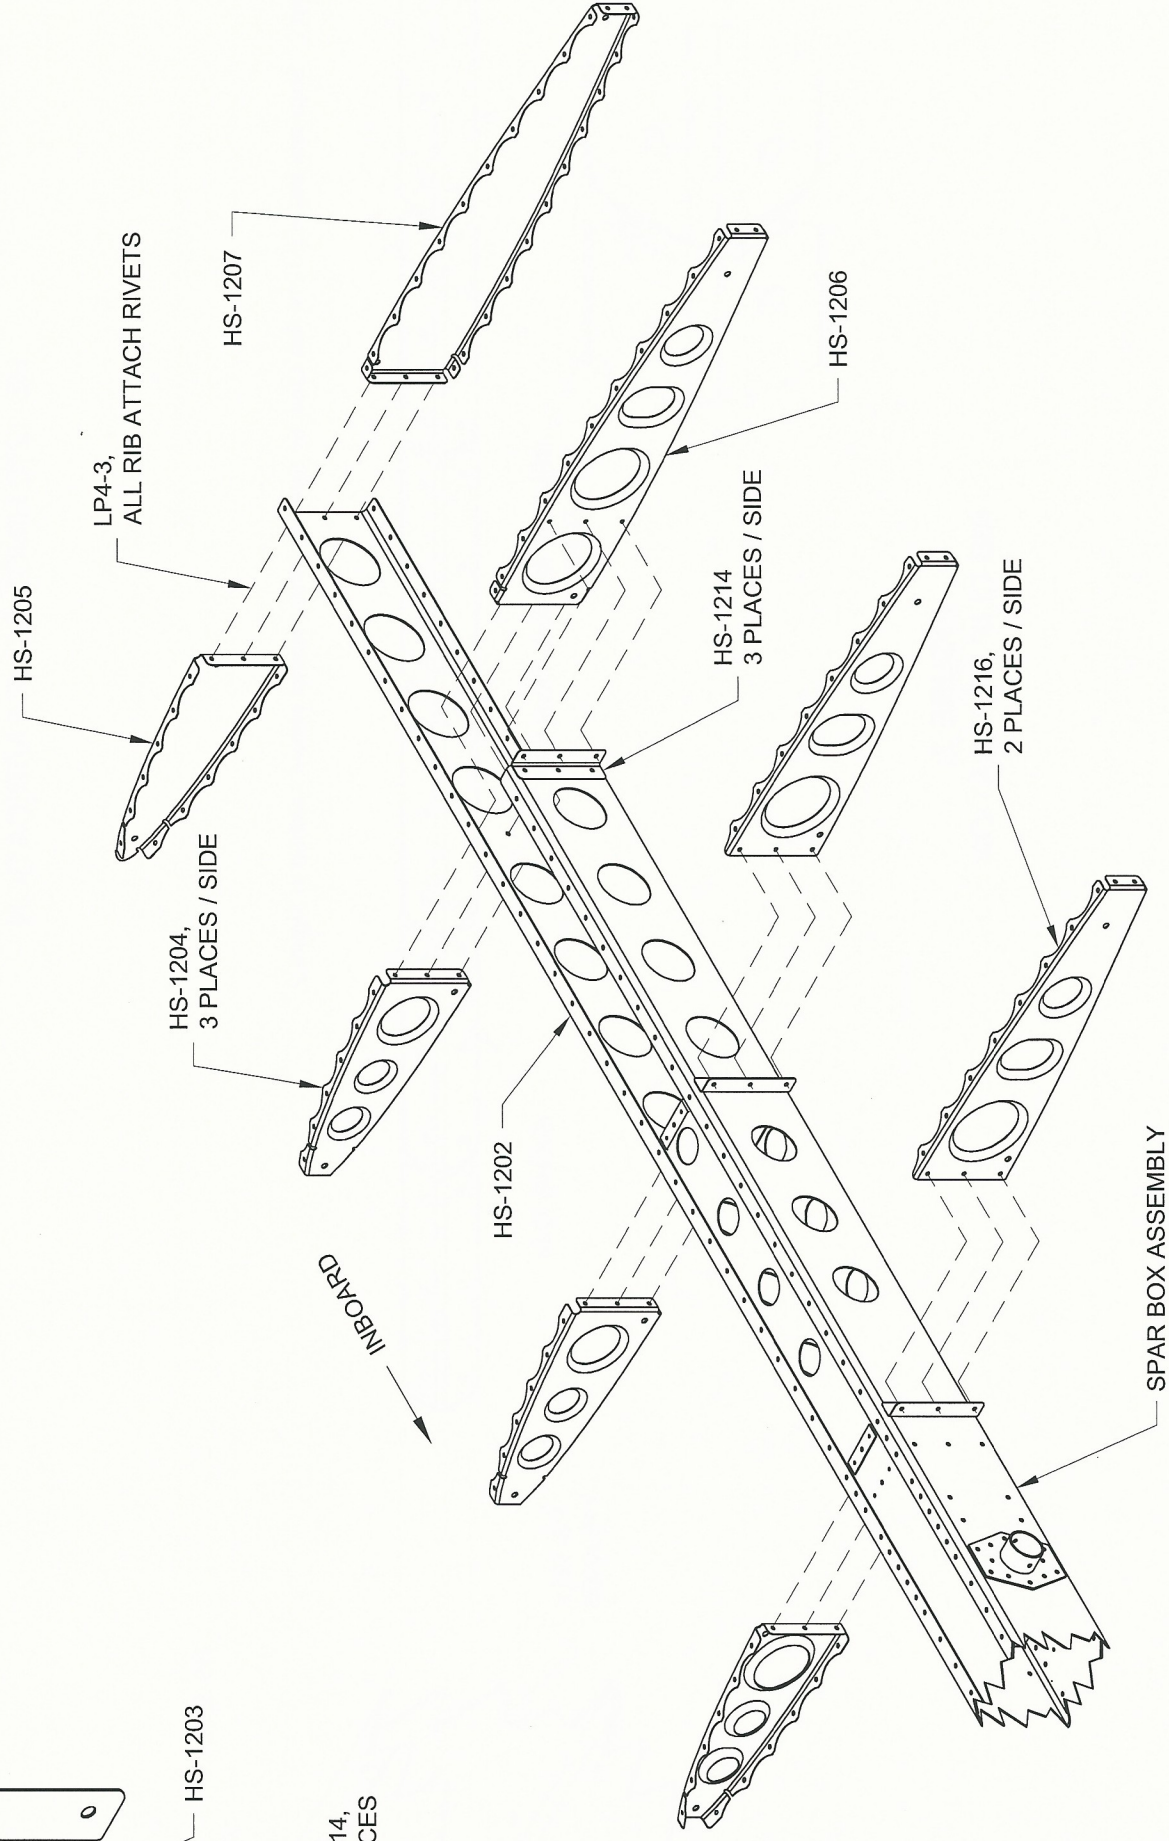

FIGURE 3:
NOTE: Figure 3 illustrates the installation of the ribs for the right side of the stabilator. Steps 3, 4, and 5 describe installation for the ribs on the right side of the stabilator. Installation for the ribs on the left side of the stabilator is a mirror of the right. Perform the remaining steps on this page on both sides of the stabilator. Flute ribs as necessary per Section 5N.
Step 3: Rivet the HS-1216 Aft Main Ribs and the HS-1206 Inbd Main Rib to the HS-1214 Rib Clips per call-out in Figure 3.
Step 4: Rivet the HS-1204 Fwd Inbd Ribs to the HS-1202 Fwd Spar per call-out. Include the forward flange of the HS-1206 Inbd Main Rib when installing the outer most fwd inbd rib. Orient all the rib flanges as shown in Figure 3.
Step 5: Rivet the HS-1205 Fwd Outbd Rib to the HS-1207 Outbd Main Rib through the HS-1202 Fwd Spar. Orient the flanges of the fwd outbd rib and the outbd main rib so that they point inboard as shown in Figure 3.